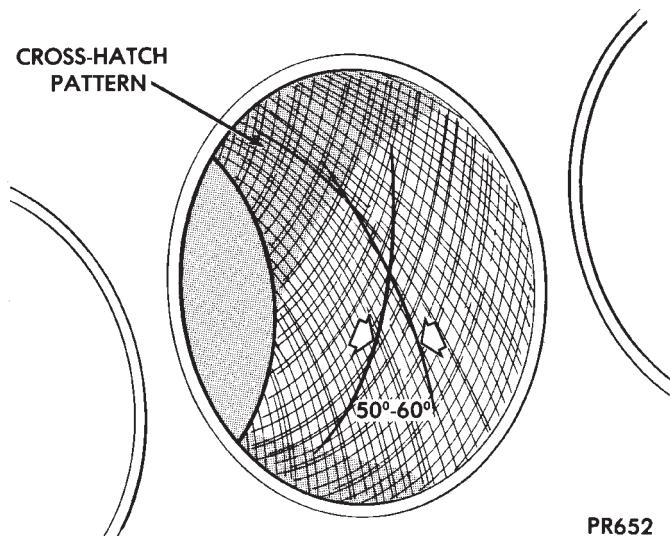

Fig. 5 Cylinder Bore Cross-Hatch Pattern
(1) Used carefully, the cylinder bore resizing hone C-823 equipped with 220 grit stones, is the best tool for this job. In addition to deglazing, it will reduce taper and out-of-round as well as removing light scuffing, scoring or scratches. Usually a few strokes will clean up a bore and maintain the required limits.
(2) Deglazing of the cylinder walls may be done using a cylinder surfacing hone, Tool C-3501, equipped with 280 grit stones, if the cylinder bore is straight and round. 20-60 strokes depending on the bore condition, will be sufficient to provide a satisfactory surface. Inspect cylinder walls after each 20 strokes, using a light honing oil. **Do not use engine or transmission oil, mineral spirits or kerosene.**
(3) Honing should be done by moving the hone up and down fast enough to get a cross-hatch pattern. When hone marks **intersect** at 50-60 degrees, the cross hatch angle is most satisfactory for proper seating of rings (Fig. 5).